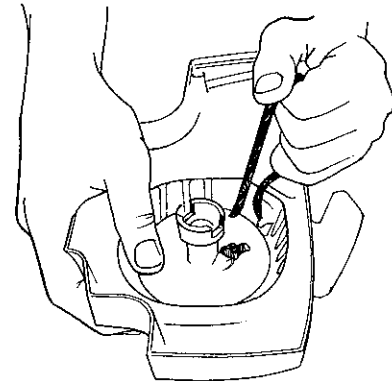

Figure 23
7. To retension the starter spring pull a loop of rope from the pulley approximately 12 in. long. Secure the rope in the notch in the pulley and using the rope turn the pulley **THREE TURNS** counterclockwise . Release the rope from the notch and allow to rewind slowly on pulley. Figure 23.